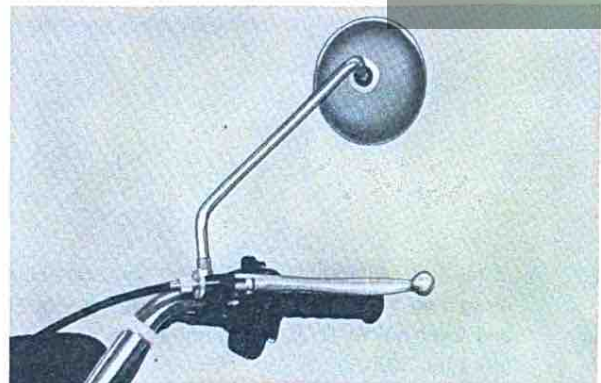

Fig. 33
24. a) Install the mirror (11) on the left side of the handlebars.
- b) Adjust for proper rear view. (Fig. 33)